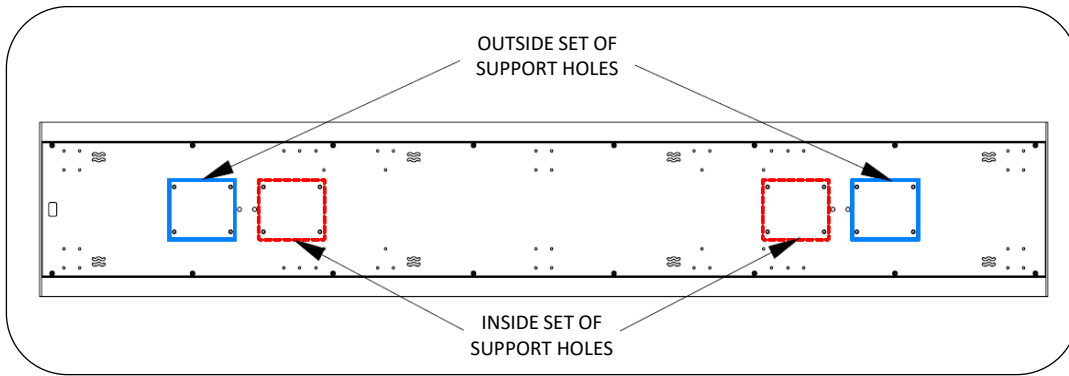

Fig. 1 – support attachment hole locations
1. Set thin beam seat upside down on protective surface. Set support columns in position. Refer to site plans for correct placement of support columns. Support columns can be installed in both outside positions, or both inside positions, see Fig. 1. If installing bench in front of a three bay Theory shelter, supports in the outside positions visually align with the shelter posts. Cover plate access hole should be installed toward the middle of the bench.